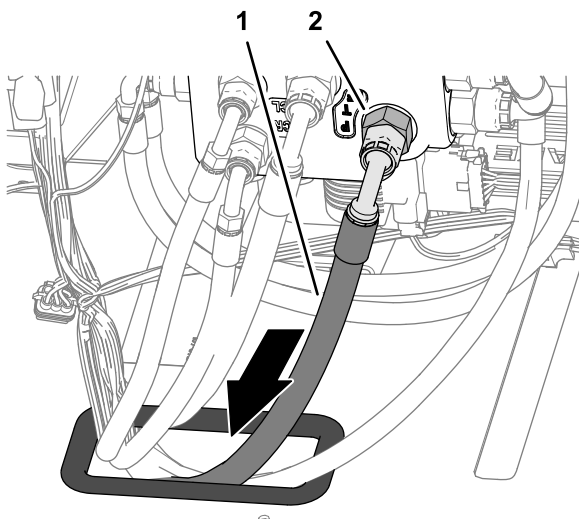

Figure 123
5. Route the end of the hydraulic-pump hose 10 x 2921 mm (3/8 x 115 inches) with the 45° fitting through the grommet in the floor plate (Figure 123).
6. Assemble the 90° fitting of the hydraulic-pump hose 10 x 2921 mm (3/8 x 115 inches) onto the port PT fitting of the EHI steering valve, and tighten the hose fitting (Figure 123).